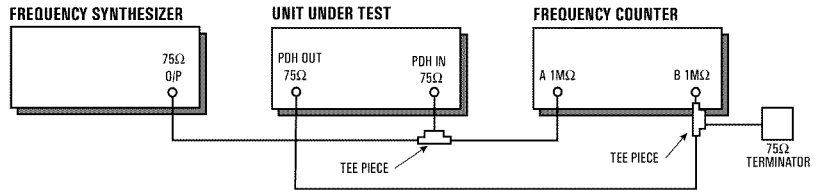

Figure 3-3 Receiver Frequency Measurement Test Setup
- 2 Connect up the equipment as shown in Figure 3-3.